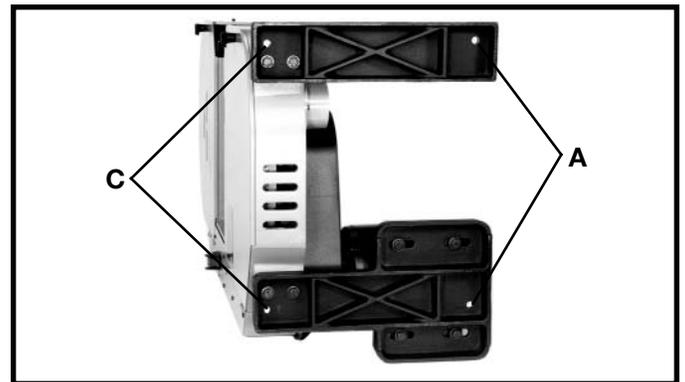
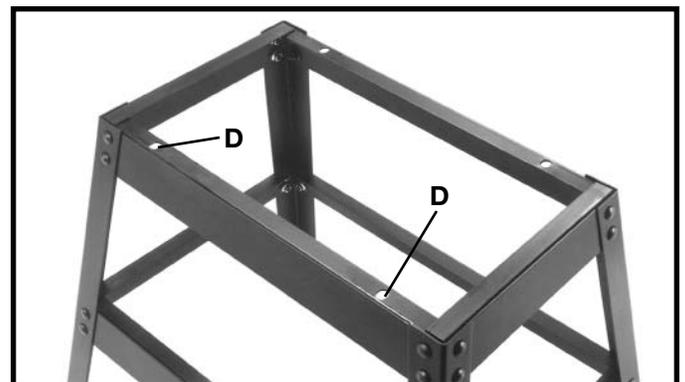
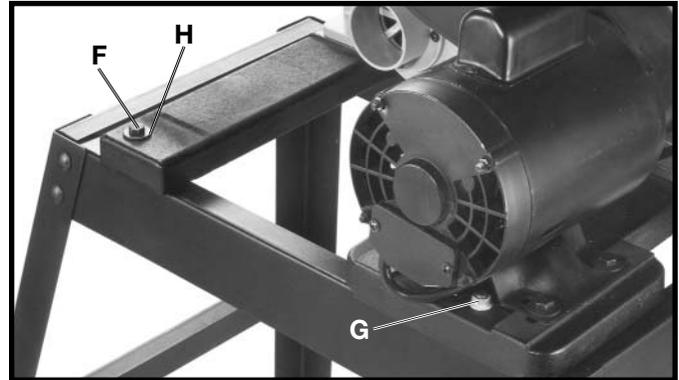

Fig. 4
Fig. 5
Fig. 7
1. Fig. 4 illustrates the two through holes (A) and two threaded holes (C) which will be used to secure the band saw to the stand.
2. Place the band saw on top of stand and line up the two threaded holes (C) Fig. 4, with the two holes (D) Fig. 5, on upper brace of stand.
4. Align the remaining two holes (A) Fig. 4, with the two holes in the stand. Place a M8.4 flat washer (H) Fig. 7, on a M8x1.25x45mm hex head screw. Insert screw (F) through the hole in band saw and the hole in the stand. Place a M8.4 flat washer onto screw (F) Fig. 7, and thread a M8x1.25 hex nut onto screw (F) and tighten securely.
5. Place a M8.4 flat washer onto a M8x1.25x45mm hex head screw. Insert screw (G) Fig. 7, through the hole in stand and the hole in the band saw. Place a M8.4 flat washer onto screw (G) Fig. 7, and thread a M8x1.25 hex nut onto screw (G) and tighten securely.